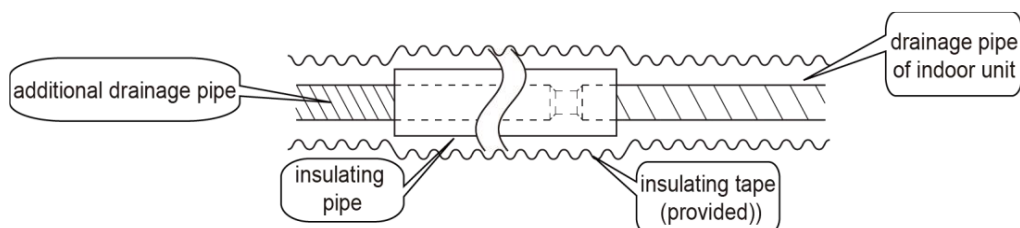

Fig 9.3.1
(1) The drainage pipe should be short and the gradient downwards should be at least 1%~2% in order to drain condensation water smoothly.
(2) The diameter of drainage hose should be bigger or equal to the diameter of drainage pipe joint.
(3) Install drainage pipe according to the following fig and arrange insulation to the drainage pipe (Fig 9.3.1). Improper installation may lead to water leakage and damp the furniture and other things in the room.
(4) You can buy normal hard PVC pipe used as the drainage pipe. During connection, insert the end of PVC pipe into the drainage hole and then tighten it with drainage hole and wire binder. Can't connect the drainage hole and drainage hole with glue.
(5) When the drainage pipelines are used for several units, the position of pipeline should be about 100mm(4in) lower than the drainage port of each unit. In this case, thicker pipes should be applied.